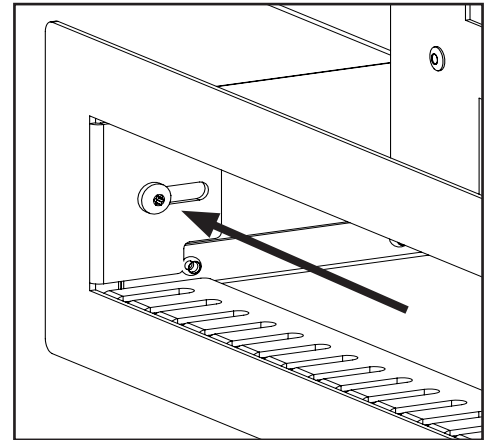

Figure 17. Outlet Trim Bezel Screw
Step 2: Using a T20 screwdriver, remove the screw on each side of the HDK outlet retaining the Outlet Trim Bezel and remove the Bezel (Figure 17).